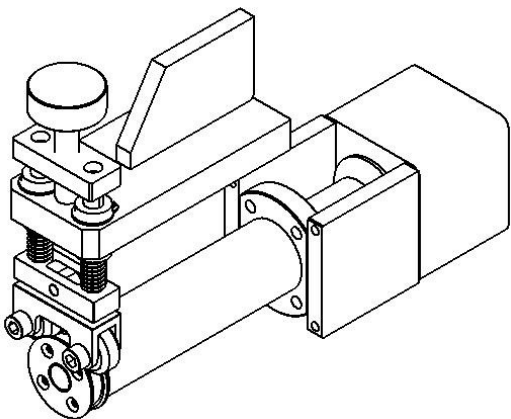

Figure 4.1 ACF Feeding Device
- 4.1 **ACF feeding device:** The ACF take-up reel is driven by the stepper motor in conjunction with the ACF feeding device tension, it will move the corresponding angle according to the feeding length stored in the touchscreen profile, then the ACF half-cut will cut the ACF (not the backing layer) so that the length of ACF is ready for prebonding. Pictorials of the ACF feeding device and the ACF half-cut mechanism are shown in figures 4.1 and 4.2.